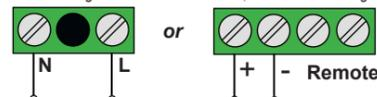

Fig. 2 100 ± 240VAC-50/60Hz 12Vdc
**Warning:** Electrical connections must be done using chased in wiring. Gas detectors must be powered at 100 ± 240 VAC - 50/60 Hz through "N" and "L" terminals, or at 12 Vdc through (+) and (-) terminals as shown in Figure 2.